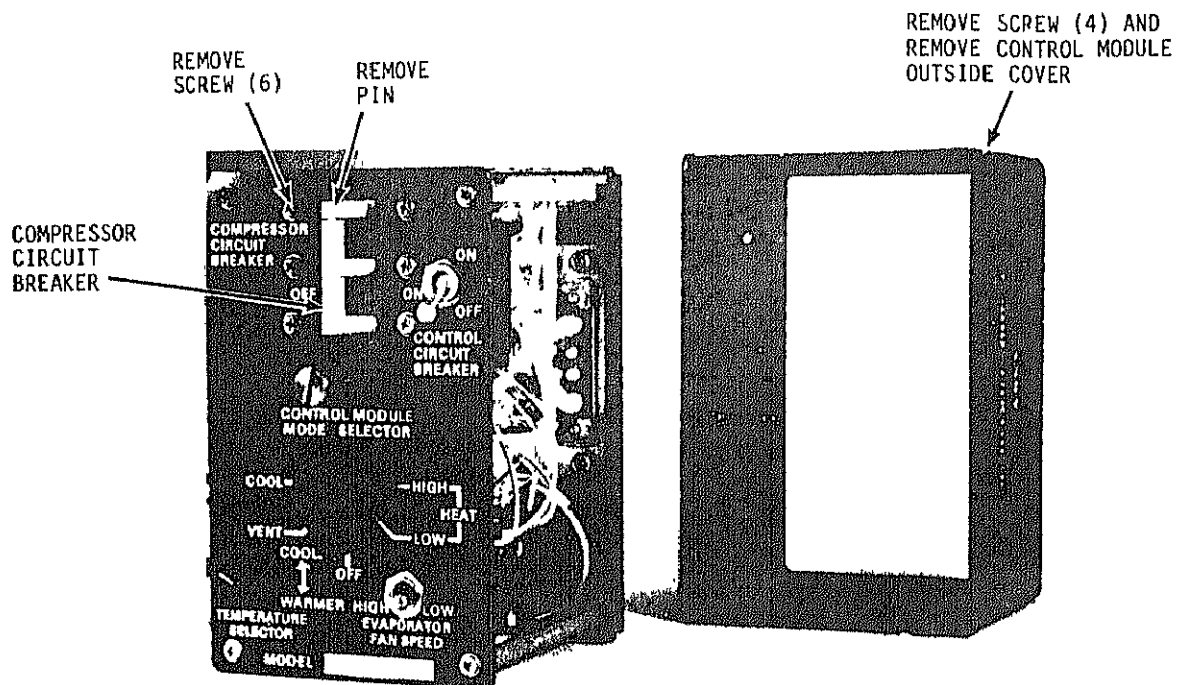

Figure 4-11. Compressor circuit breaker, removal and installation
(11) Refer to figure 4-11 and remove the compressor circuit breaker. The pin assembly must be removed first before removing circuit breaker.
(1) Refer to figure 4-11 and install the compressor circuit breaker.